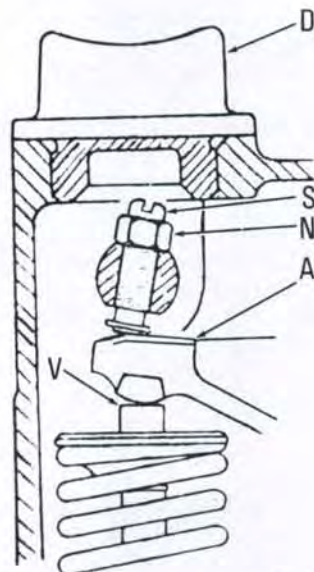

Fig. 13—Cross-sectional view of Model L210 decompressor mechanism showing points and method of adjustment. Models L175, L225 and L225DT are similar.
knob until fully applied. Loosen actuator stud locknut (N—Fig. 13) and back out actuator stud (S) until it is clear of rocker arm; turn stud down until it just contacts rocker arm, then turn stud an additional 1½ turns to open valve the specified amount. Tighten locknut (N) securely, checking to be sure stud did not turn as locknut was tightened. All actuators on engine should be adjusted alike. Readjustment may be necessary periodically because of wear, and will be necessary if valves are resealed or renewed, if head gasket is renewed; or if rocker arm cover gasket is renewed or cover retaining stud nuts retightened.